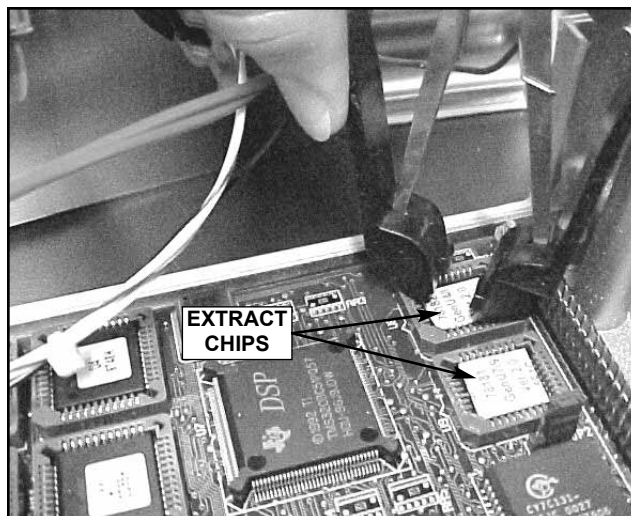

FIGURE 7.4
1. Using PLCC Extractor remove chips from U6 and U9. See Figure 7.4.